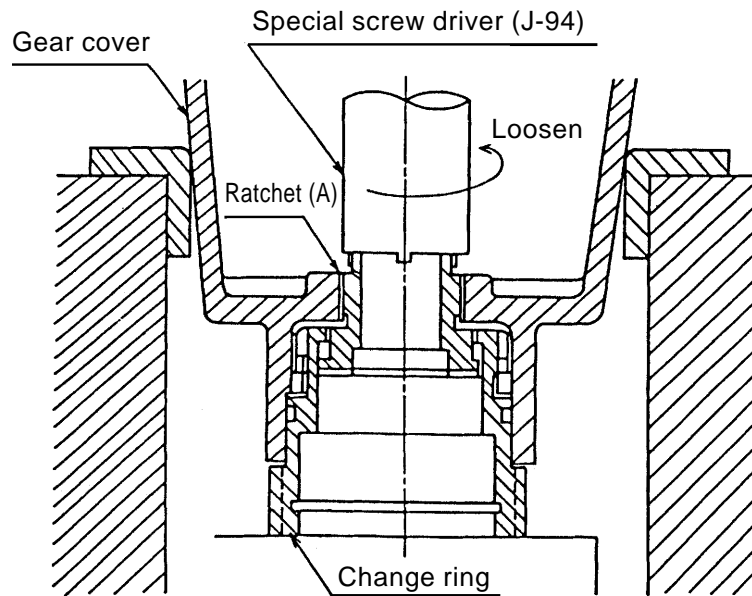

Fig. 6
(4) Remove Ratchet (A)
Since Ratchet (A) is secured to the Gear Cover **[13]** by an M20 left-hand-threaded screw, apply a J-94 special screwdriver to the groove on the side opposite the ratchet threaded portion, as shown Fig. 6. By turning the screwdriver counterclockwise, the left-hand-threaded screw is loosened. When securing the Gear Cover, be careful not to damage it.